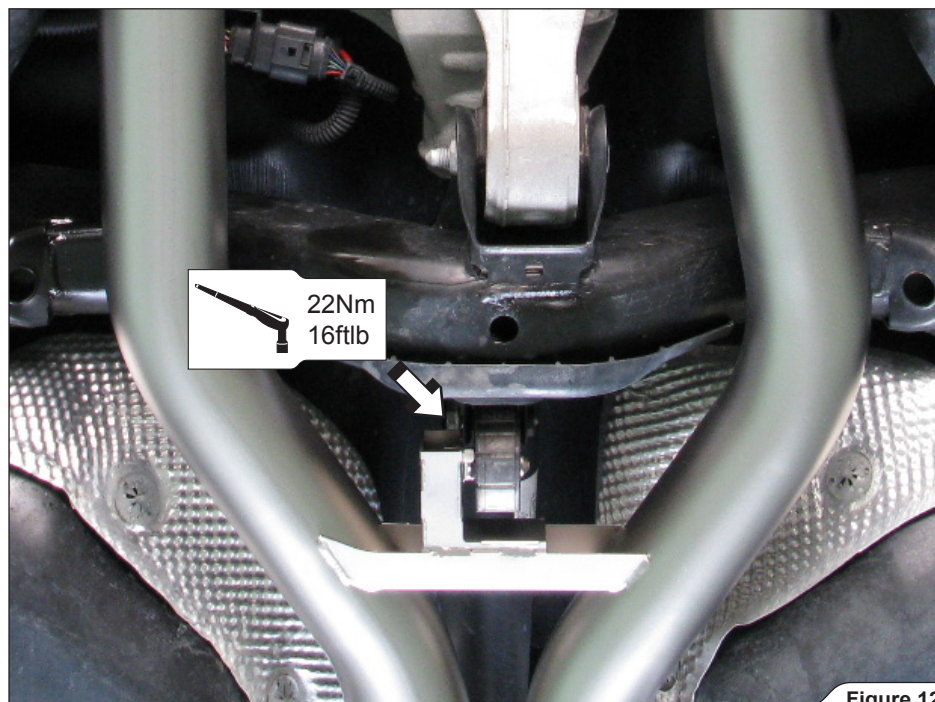

Figure 12
12. **For both systems:** tighten the rubber bracket onto the chassis, using stock bolt (**Figure 12**).